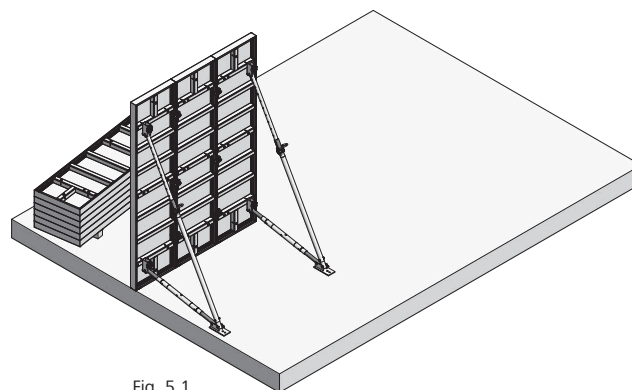

Fig. 5.1
2. Place the first panel and immediately attach it to the ground or concrete slab with two brace frames to prevent it falling over (Fig. 5.1). The foot plate must be firmly connected to the ground or concrete slab – in earth with two ground nails, in concrete with two heavy-duty dowels.